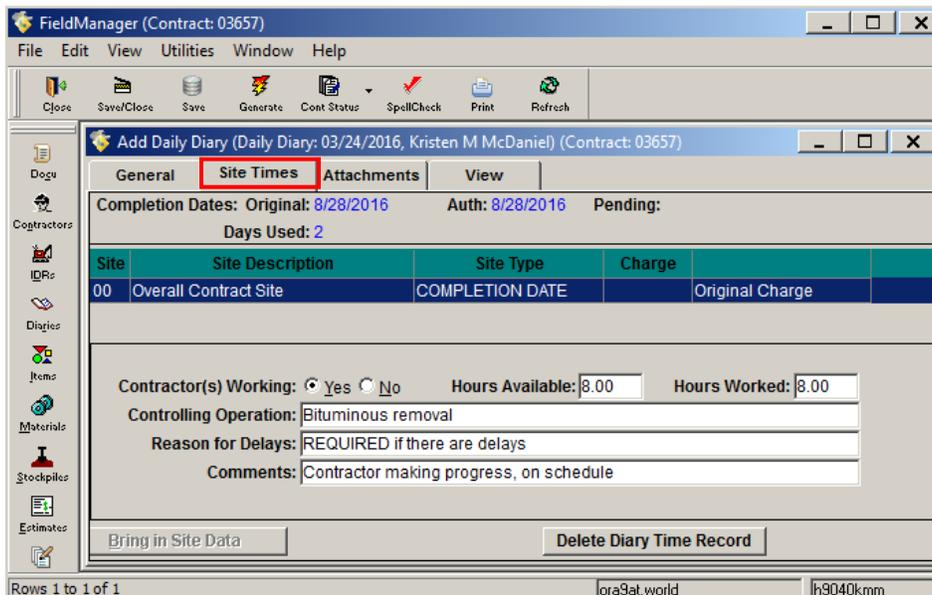

Figure 8-5. Add Daily Diary – Site Times Tab (**Completion Date Contract**)
- **Note:** This field is not available for Completion Date sites (Figure 8-5).